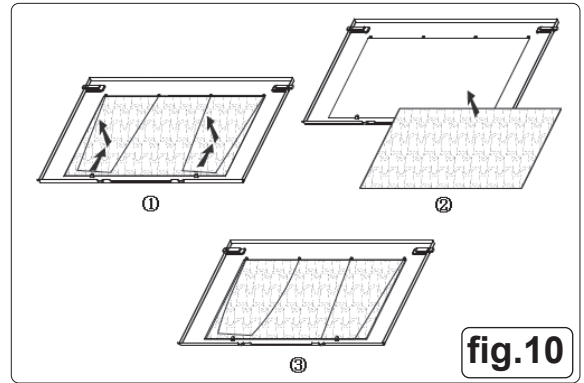

fig.10
- **REPLACING GREASE MESH FILTERS (fig.9, fig.10)**